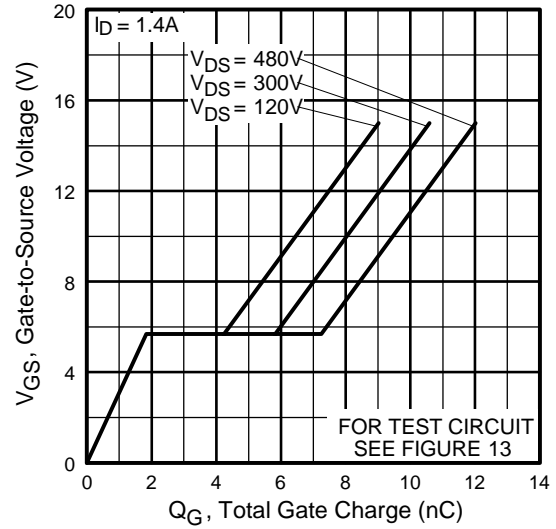

Fig 6. Typical Gate Charge Vs. Gate-to-Source Voltage
| Q_g | Total Gate Charge | — | — | 14 | nC | $I_D = 1.4A$ $V_{DS} = 400V$ $V_{GS} = 10V$, See Fig. 6 and 13 ④ |